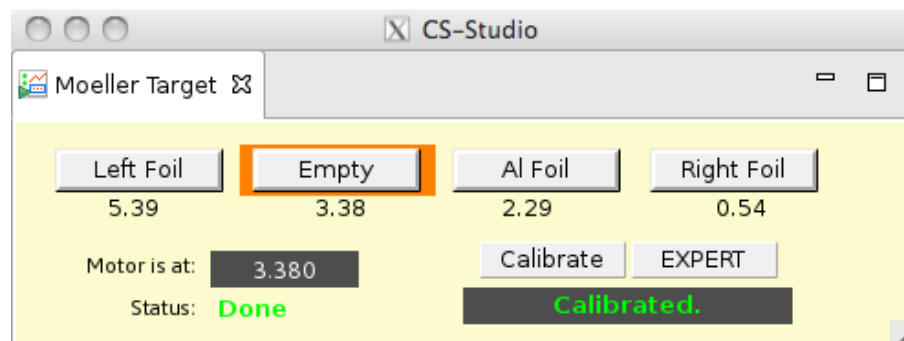

Figure 4: Control GUI for the Möller target.
- a target control GUI, Fig.4, allows to position desired target on the beam. Left target is the recommended target for the measurements.